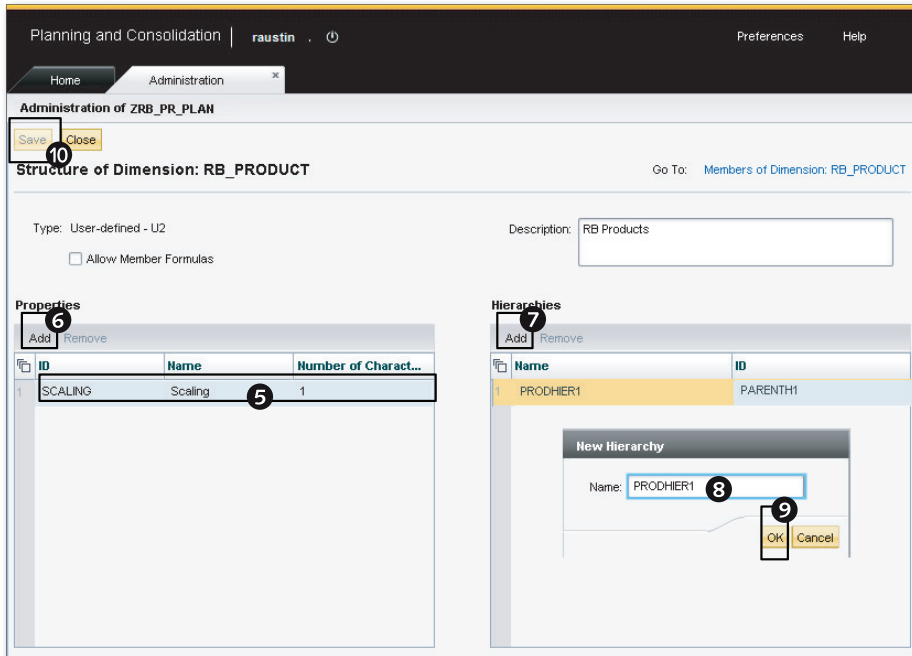

Figure 3.34 Creating a Custom Dimension—Part B
3. The standard properties are automatically added for the dimension type (Figure 3.34, ❺). They are protected and cannot be changed or deleted. You can now add new properties as needed, although you do not need to add any new properties to this dimension for our case study. To create a new property, click on ADD (Figure 3.34, ❻). To add a new hierarchy, click on ADD in the HIERARCHIES area (Figure 3.34, ❼).
4. In the NEW HIERARCHY dialog box enter "PRODHIER1" as the hierarchy name, and click OK (Figure 3.34, ❽ and ❾). Click on SAVE to create the dimension (Figure 3.34, ❿).